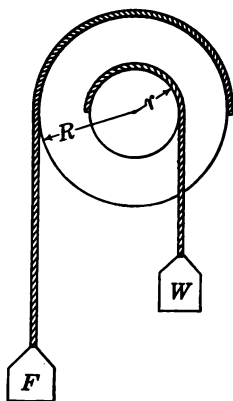

FIGURE 259.—THE WHEEL AND AXLE.
It consists of a wheel and an axle rigidly fastened together. (Figure 259.) The force (F) acts on a rope wound around the wheel,